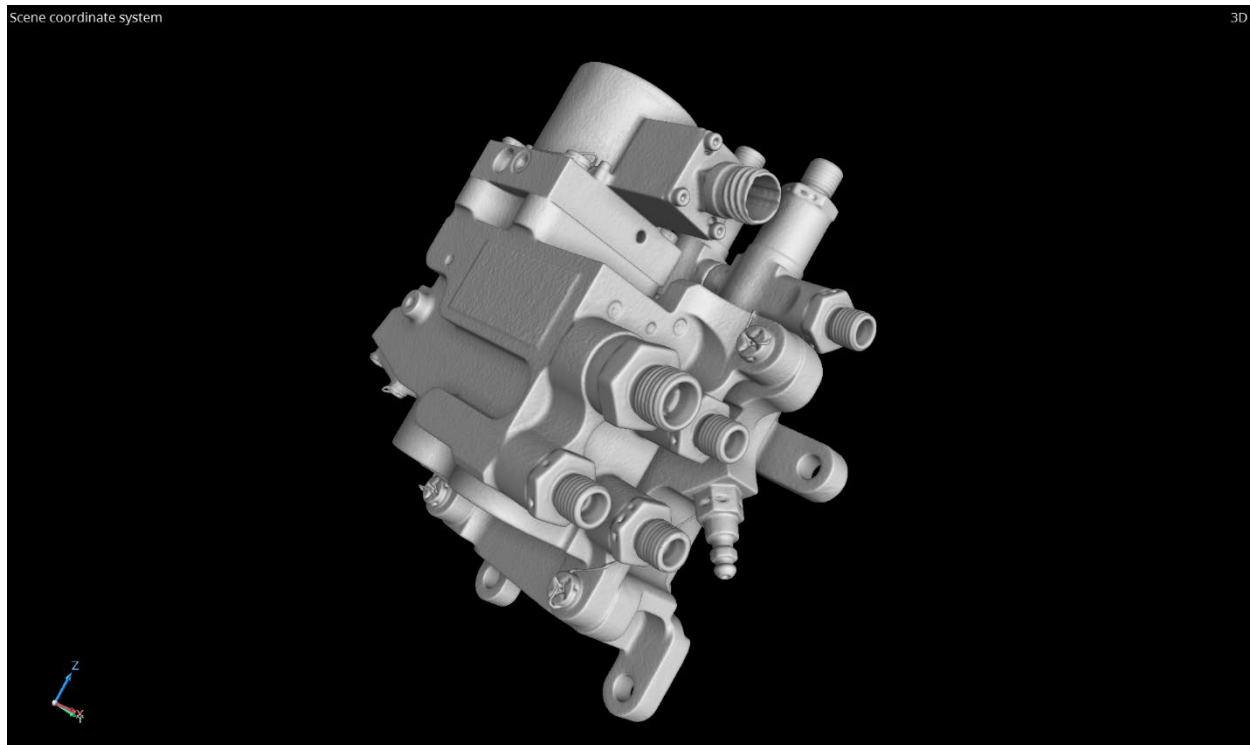

Figure 3. Power brake and antiskid valve assembly - isometric view.
The CT results for the power brake and antiskid valve assembly are shown in Figures 3 through 48. Review of the images indicated that when the scans were conducted the following items were observed. There were no indications of damaged or missing parts.
- 1) Figures 3 through 9 show the exterior of the valve assembly, the ports and the nomenclature of the ports.